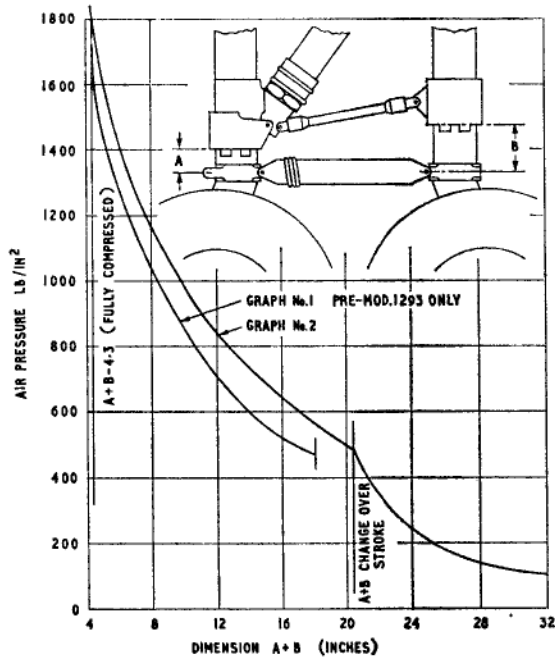

Fig. 4. Main undercarriage pressure chart
22. With the aircraft standing on its wheels take a reading of the air pressures in the oleo struts and measure the strut extensions. Check that the readings agree with the charts given in *fig. 4* and *5*. For remedial action and further details on the alighting gear, refer to Sect. 3, Chap. 5.